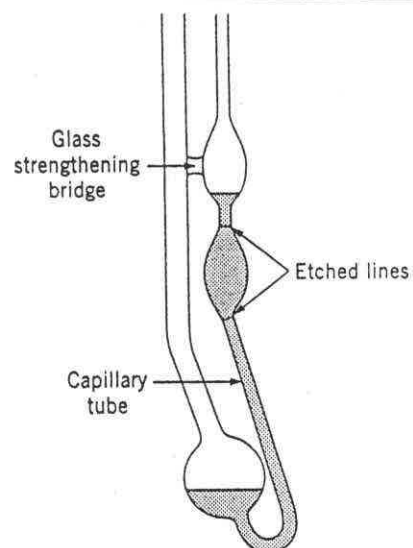

FIGURE P1.58
1.58 One type of *capillary-tube viscometer* is shown in Video V1.5 and in Fig. P1.58. For this device the liquid to be tested is drawn into the tube to a level above the top etched line. The time is then obtained for the liquid to drain to the bottom etched line. The kinematic viscosity, ν , in m^2/s is then obtained from the equation $\nu = KR^4t$ where K is a constant, R is the radius of the capillary tube in mm, and t is the drain time in seconds. When glycerin at 20°C is used as a calibration fluid in a particular viscometer the drain time is 1,430 s. When a liquid having a density of $970 \text{ kg}/\text{m}^3$ is tested in the same viscometer the drain time is 900 s. What is the dynamic viscosity of this liquid?